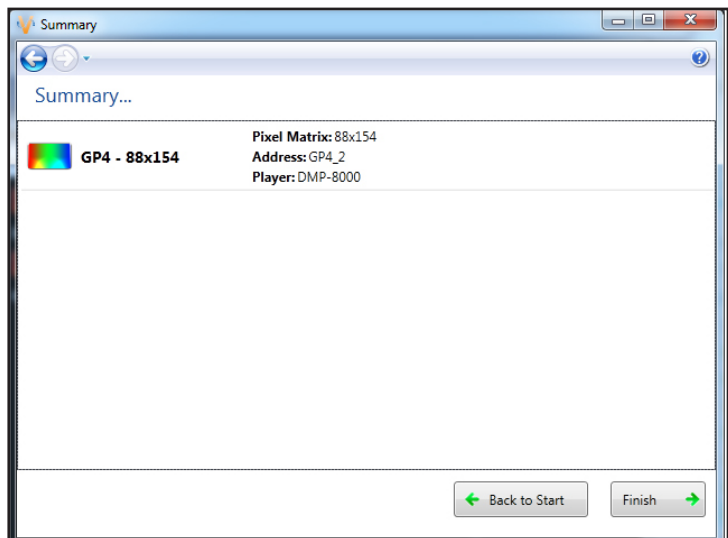

Figure 13: Display Configuration Summary Window
8. A Summary box, shown in **Figure 13**, provides basic information about the newly configured display. Click **Back to Start** to return to the beginning of the process to configure another display. Click **Finish** to complete display configuration.